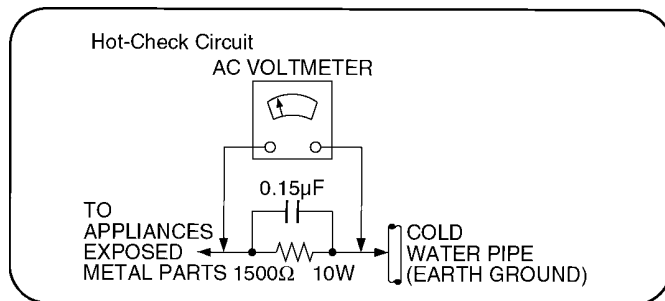

Figure 1
2.1.2. LEAKAGE CURRENT HOT CHECK (See Figure 1.)
2. Connect a 1.5k Ω , 10 watts resistor, in parallel with a 0.15μF capacitors, between each exposed metallic part on the set and a good earth ground such as a water pipe, as shown in Figure 1.